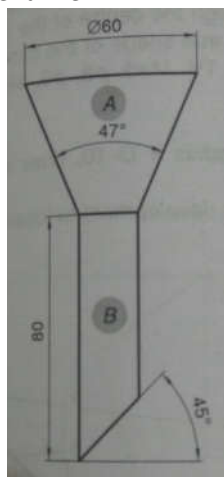

Figure 1
3. A funnel is manufactured by a frustum of a cone and a truncated cylinder as shown in Fig 1 below. Diameter of the cylinder is 20mm and all other dimensions in mm are given in the figure. Draw the development of the funnel.